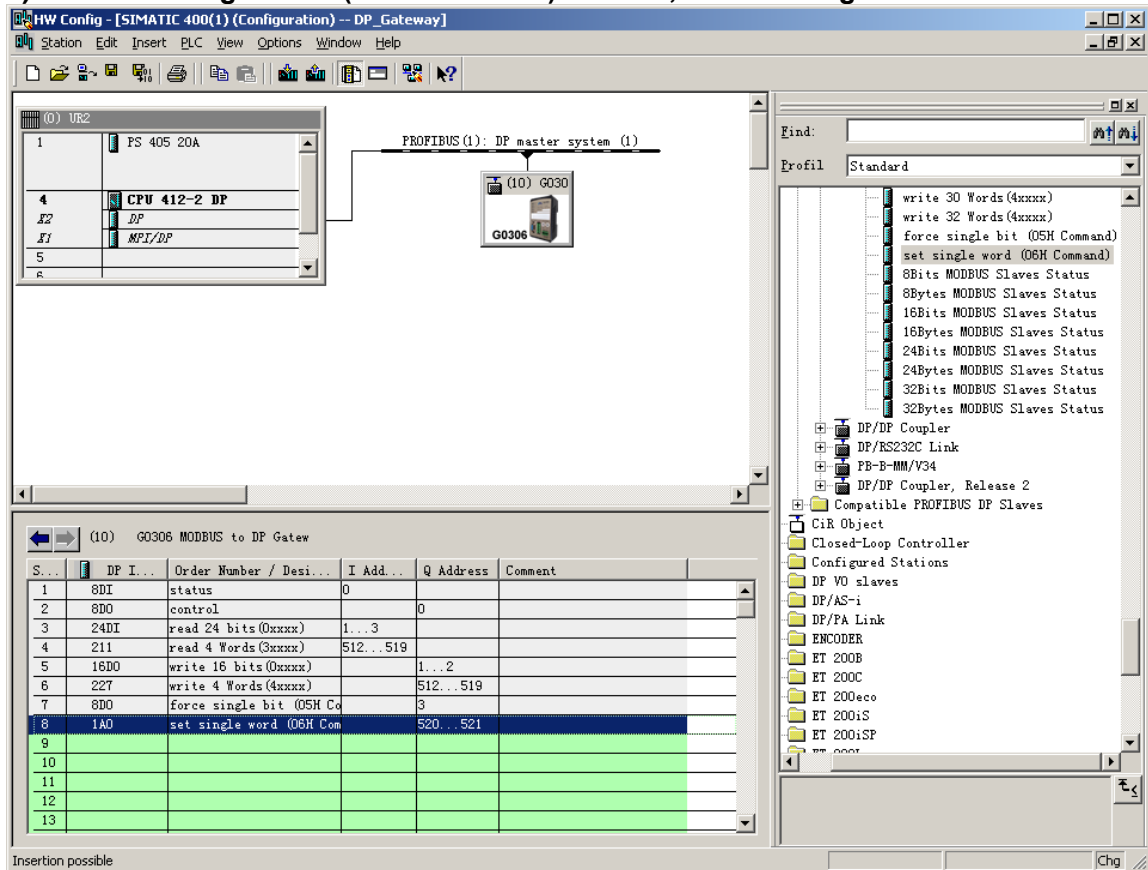

Figure 31 Add “set single word (06H Command)”Module
a) Add “set single word (06H Command)”Module, shown in Figure 31: